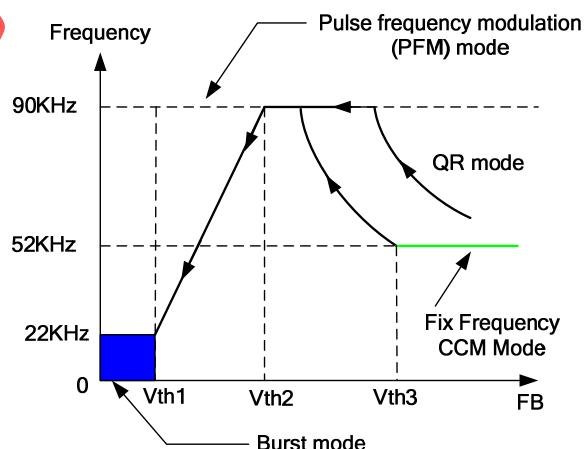

Figure 1
- At full load conditions ($FB > Vth3$, Figure 1), there are two situations: firstly, if the system input is in low line input range, the IC operates in fix frequency (52KHz @ $RI=20K\ \Omega$) CCM mode. Thus, small size transformer can be used with high power conversion efficiency. Secondly, if the system input is in high line input range, the IC operates in QR mode. In this way, high power conversion efficiency can be achieved in the universal input range when system is at full loading conditions.
- At normal operating conditions ($Vth2 < VFB < Vth3$, Figure 1), the system operates in QR mode. The frequency varies depending on the line voltage and the load conditions. Therefore, the system may actually work in DCM when 90Khz frequency clamping is reached.
- At light load conditions ($Vth1 < VFB < Vth2$, Figure 1), the system operates in PFM (pulse frequency